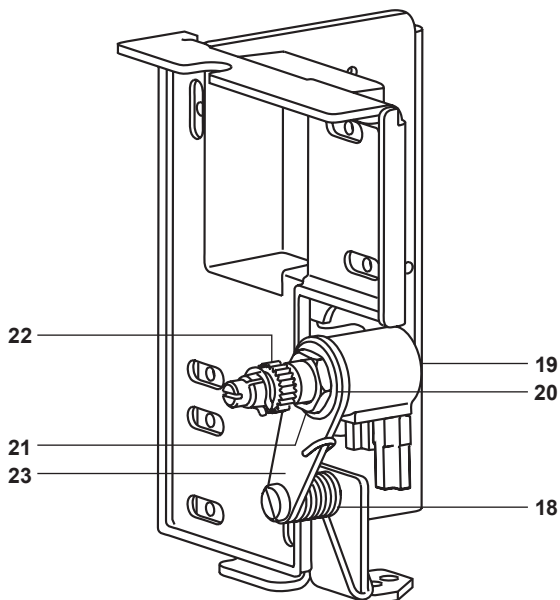

Fig. 12
- Insert the potentiometer (19) in to the actuator pre-moulded bracket (23).
- Replace the locating washer (20) and firmly secure the nut (21).
- Slide the pinion kit (22) onto the potentiometer ensuring the pinion is engaged into the teeth of the switching plate.
- Then insert the spring (18) to the housing bracket as shown in Figure 12.